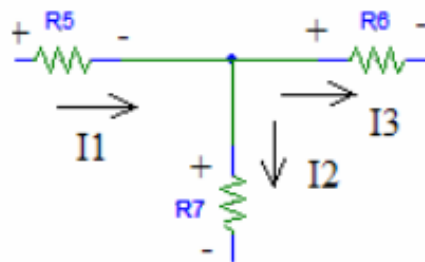

Fig. 2.2: An Example of KCL
3. **Kirchoff's Current Law:** Kirchoff's Current Law (KCL) deals with the currents flowing into and out of a given node. KCL states that the sum of all currents at a node must equal zero. This is illustrated in Fig. 2.2.